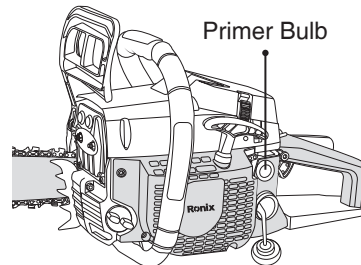

Fig. 8
- 2- Fully press and release the oil feeder 5-10 times, slowly (Fig. 8). Some amount of fuel should be visible in the primer bulb. If fuel cannot be seen in the bulb, press and release the bulb until fuel is visible.